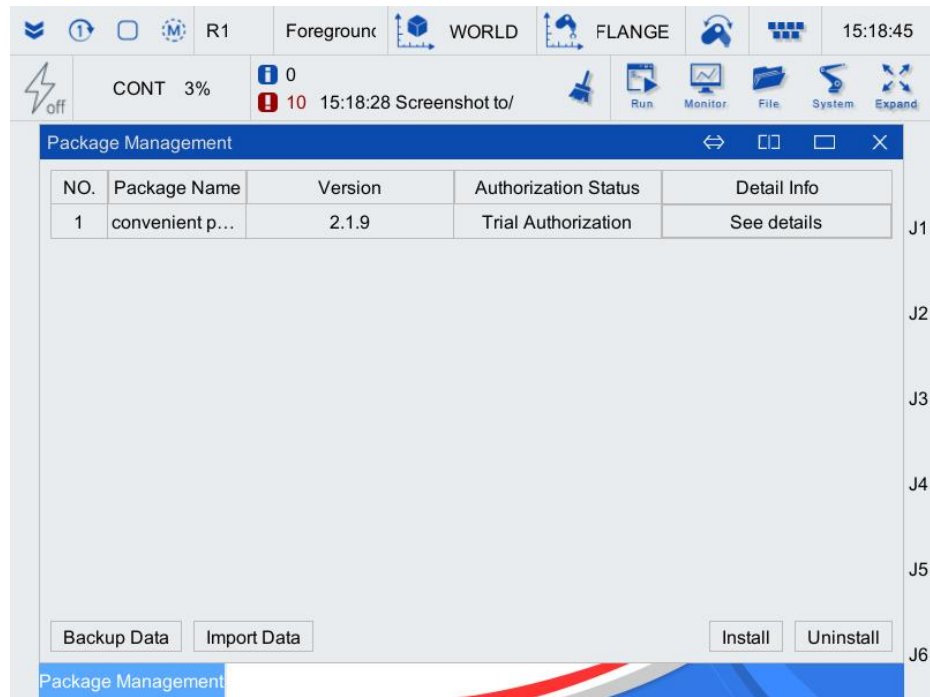

Figure 2-8 Package management box
Step2. Click [package management] to open the [package management] interface as shown in Figure 2-8.